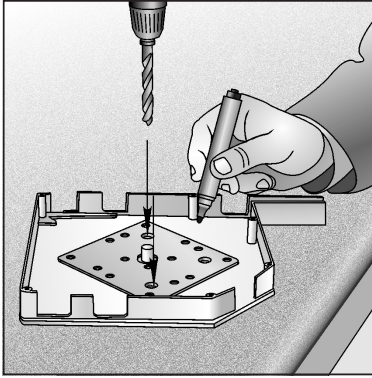

Fig. 01
- to fasten the reduction gear, it is necessary to mark location of two holes in one of the caps according to the template (Fig. 01);